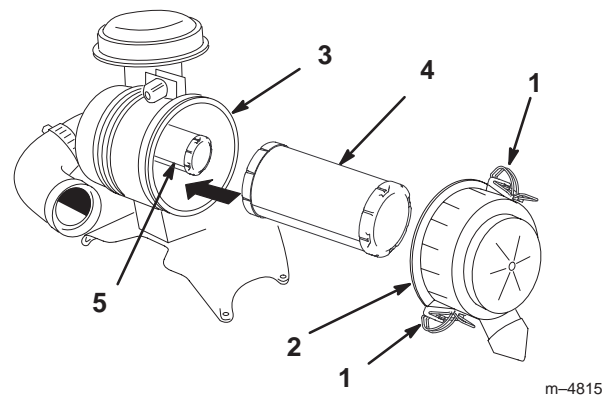

Figure 34
2. Release the latches on the air cleaner and pull the air cleaner cover off of the air cleaner body (Fig. 34).
4. Gently slide the primary filter out of the air cleaner body (Fig. 34). Avoid knocking the filter into the side of the body.
2. If the safety filter is being replaced, carefully slide it into the filter body (Fig. 34).
3. Carefully slide the primary filter over the safety filter (Fig. 34). Ensure that it is fully seated by pushing on the outer rim of the filter while installing it.
4. Install the air cleaner cover with the side indicated as **UP** facing up and secure the latches (Fig. 34).